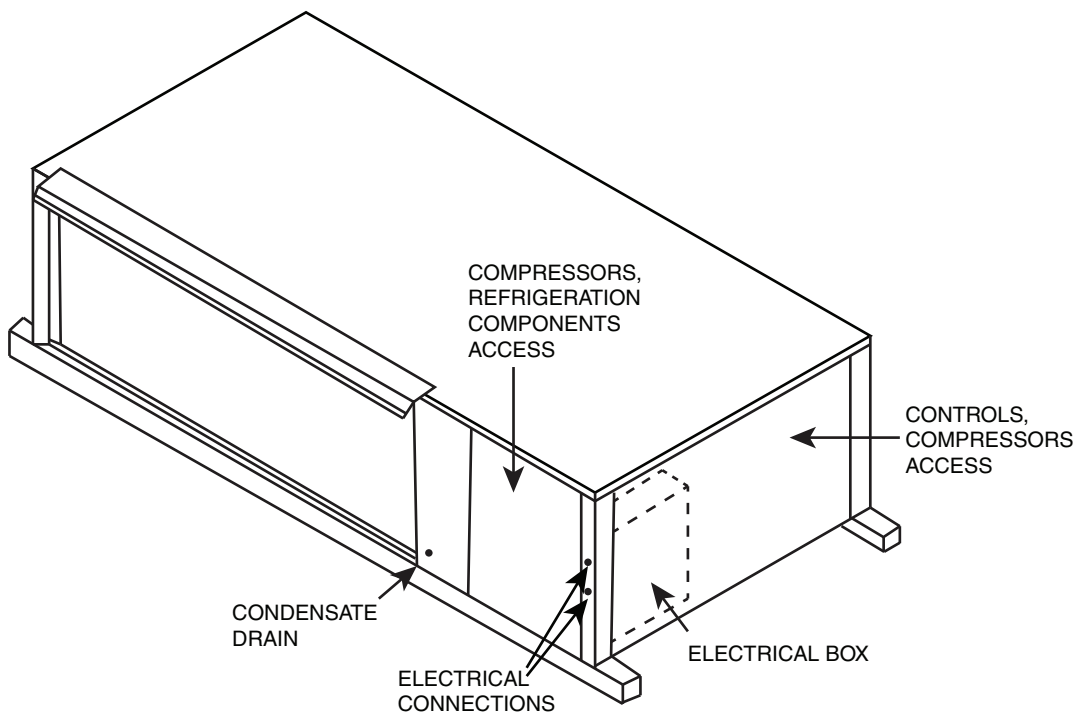

Fig. 3 — Electrical Control Box Location, 50HQP Units
1. Disconnect unit power and remove the electrical control box and compressor access panel. See Fig. 3.